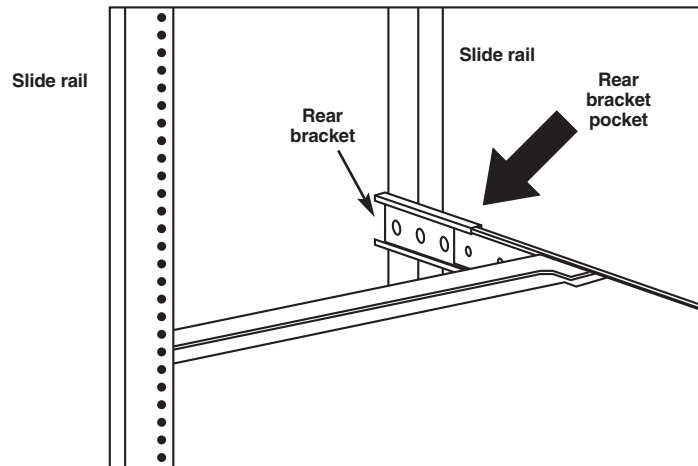

Figure 3-3. Installing the console drawer's two slide rails into the cabinet's brackets.
- Slide the console drawer into the rack cabinet from the front. Then insert the console drawer's two slide rails into the rear brackets' pockets. See Figure 3-3.